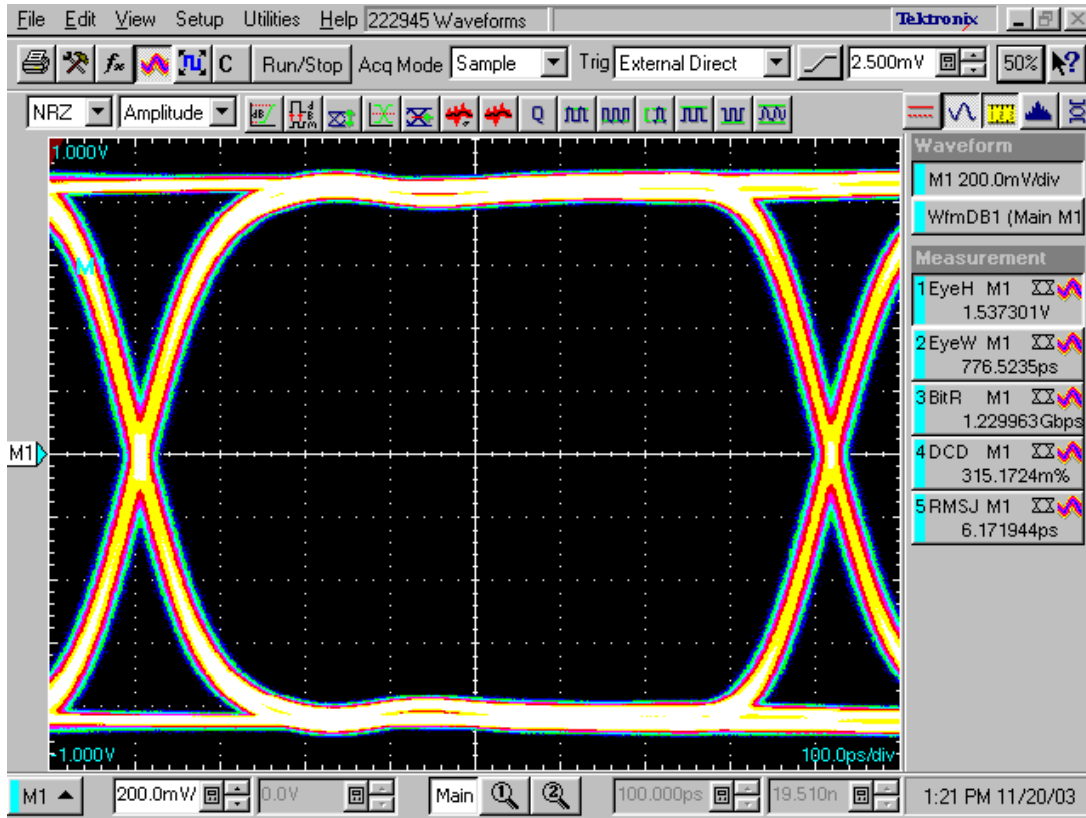

Figure 3-2. MC92604 Data-Eye Using Recommended Test Setup
6. Observe XMIT\_x\_P or XMIT\_x\_N. The transmitter should now be outputting random data. Setting the digital sampling oscilloscope to infinite persistence mode will display a data-eye. An example of a data-eye is shown in Figure 3-2.